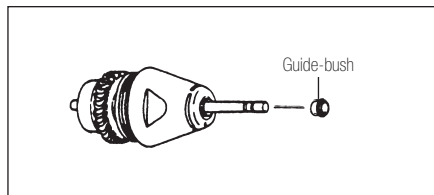

Fig.14
- Set the longer one of the guides of the guide bush on the end of the rotor shaft first along the test bur. (Fig.14)